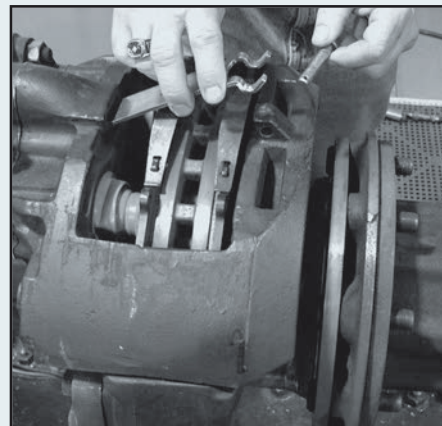

Figure 26
- Remove pad retainer bolt or pin and pad retainer bar. (See **Figure 26.**)